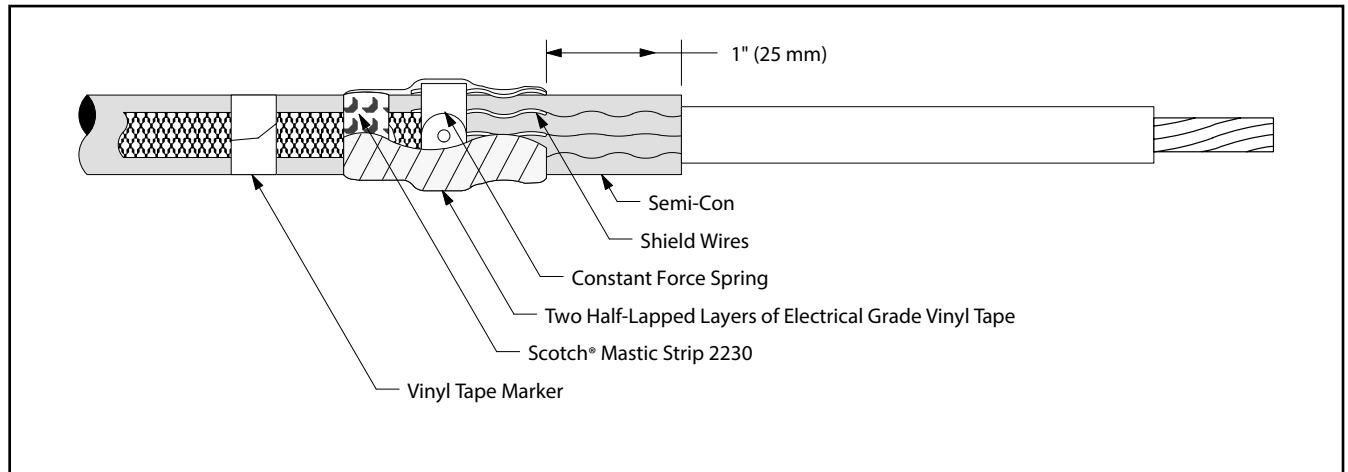

Figure 22
- 13.5 Wrap two highly stretched half-lapped layers of electrical grade vinyl tape around mastic seal, constant force spring and exposed shield wires (*Figure 22*).